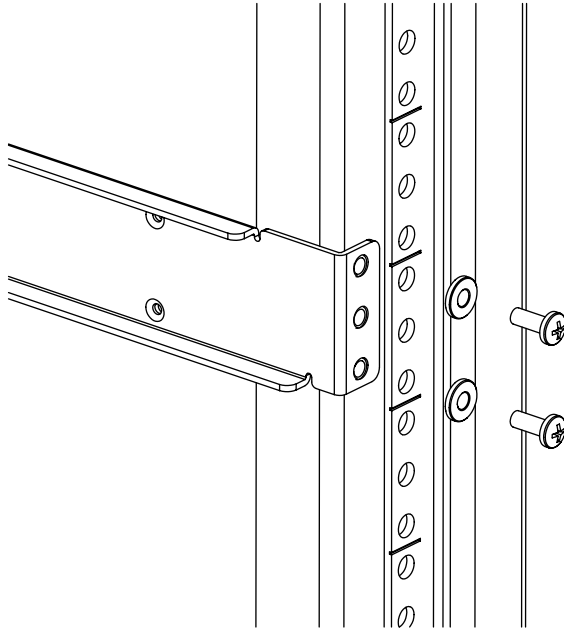

Figure 5: Assembling the Outer Rails (HP System/e Rack)
- For an HP System/e rack, install two #10-32 x 1/2-inch Phillips pan-head screws with captive star lock washers and two #10 alignment washers in the upper and lower hole locations of the right rail. Then install two #10-32 x 1/2-inch Phillips pan-head screws with captive star lock washers and two #10 alignment washers in the upper and lower hole locations of the left rail, as shown in Figure 5.